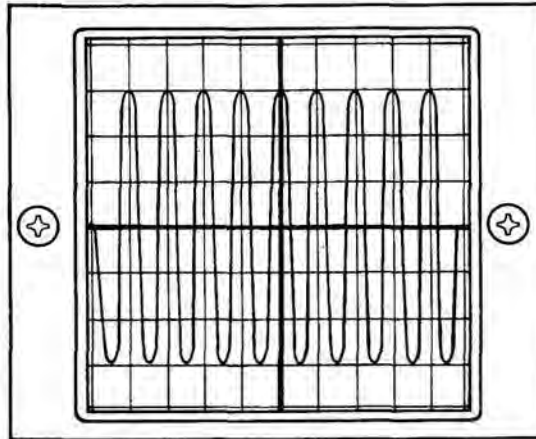

Figure 3-25 Displayed Waveform Measuring 6 Graticule Divisions Peak-to-Peak
10. Adjust Vertical Sensitivity Control on external Oscilloscope to display a sinewave 6 graticule divisions peak-to-peak on CRT Display as shown in Figure 3-25. (Inspect waveform for clipping, spikes, or any other irregularities with Sweep Control in "0.1 mS" position.)
11. Adjust VOLUME Control (19) for a comfortable listening level and verify presence of audio.
13. Rotate 1 kHz/OFF Control (26) fully ccw to detent (OFF).
14. Rotate VAR/OFF Control (25) fully cw and verify RMS Voltmeter indicates a minimum of 2.5 VRMS. Frequency Counter should display a frequency of 1000.0 Hz (± 0.1 Hz).
15. Adjust Vertical Sensitivity Control on external Oscilloscope to display a sinewave 6 graticule divisions peak-to-peak on CRT Display as shown in Figure 3-25. (Inspect waveform for clipping, spikes, or any other irregularities with Sweep Control in "0.1 mS" position.)
16. Set MODULATION FREQ Hz Thumbwheels (27) to "30000.0" and verify RMS Voltmeter indicates a minimum of 2.5 VRMS. Frequency Counter should display a frequency of 30000.0 Hz (± 1.0 Hz). Also verify presence of audio.
17. Set MODULATION FREQ Hz Thumbwheels (27) to "00010.0" and verify RMS Voltmeter indicates a minimum of 2.5 VRMS. Frequency Counter should display a frequency of 00010.0 Hz (± 0.1 Hz).